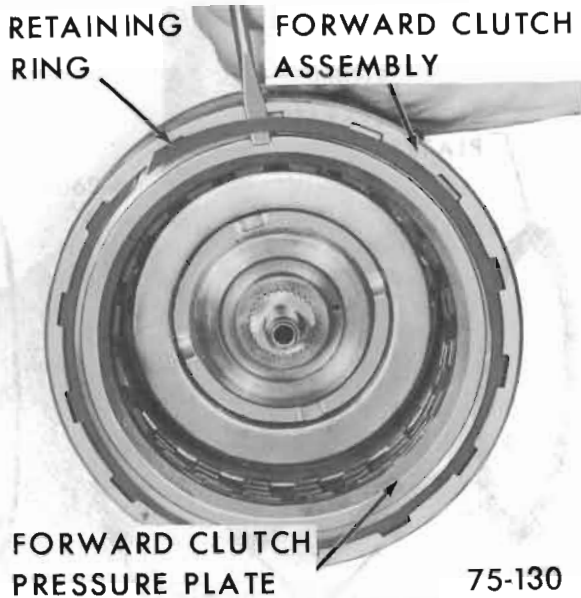

Figure 75-184
6. Install forward clutch pressure plate and retaining ring. See Figure 75-184.